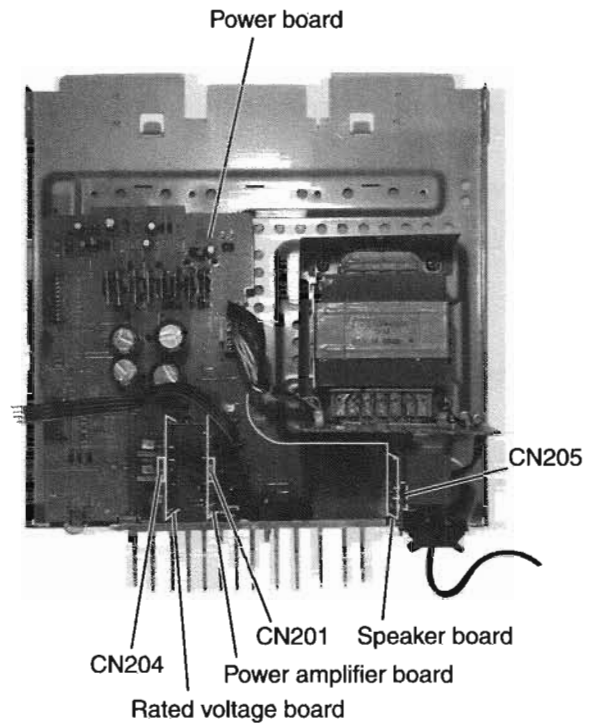

Fig.25
■ **Removing the Speaker Board** (See Fig.25)